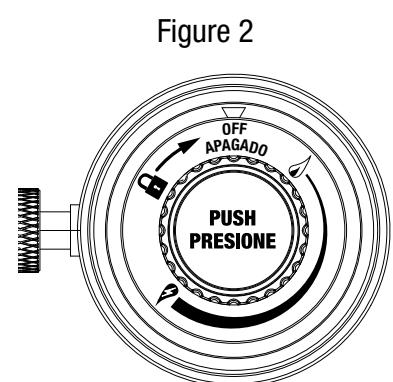

Figure 2
1. Make sure the regulator/control knob is in the "OFF" position (Figure 2).
1. Turn the regulator/control knob to the "OFF" position (Figure 2).
2. Make sure regulator/control knob is in the "OFF" position (Figure 2).
1. Turn regulator/control knob to the "OFF" position (Figure 2). Note: A "poof" sound is normal as the last of the LP gas is burned.